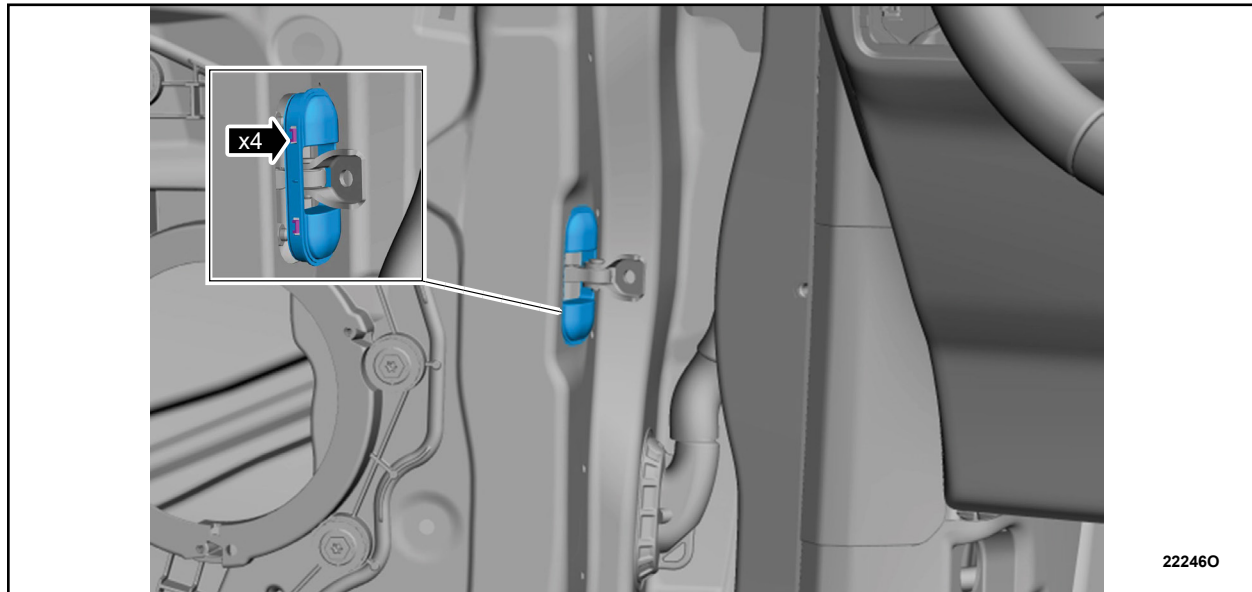

FIGURE 22
24. If equipped, install the front door check arm cover. See Figure 22.